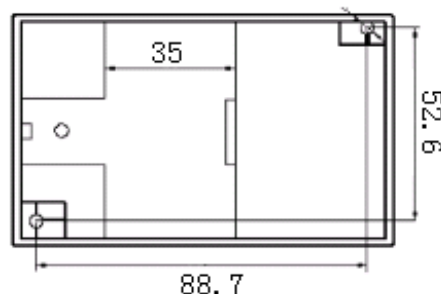

Figure 3, SK outline installation dimensions
DIN35 rail mounting or screw mounting, the installation size as shown in Figure 3 (in mm).
②Pull the spring pin down;
③Clip the transducer mount on the mounting rail;
④Release the spring pin and clip the transmitter on the mounting rail.
①3mm diameter hole in the fixed plate according to the screw hole position shown in Fig. 3;
②Use the screw  $\Phi 3$  to insert into hole and secure it.